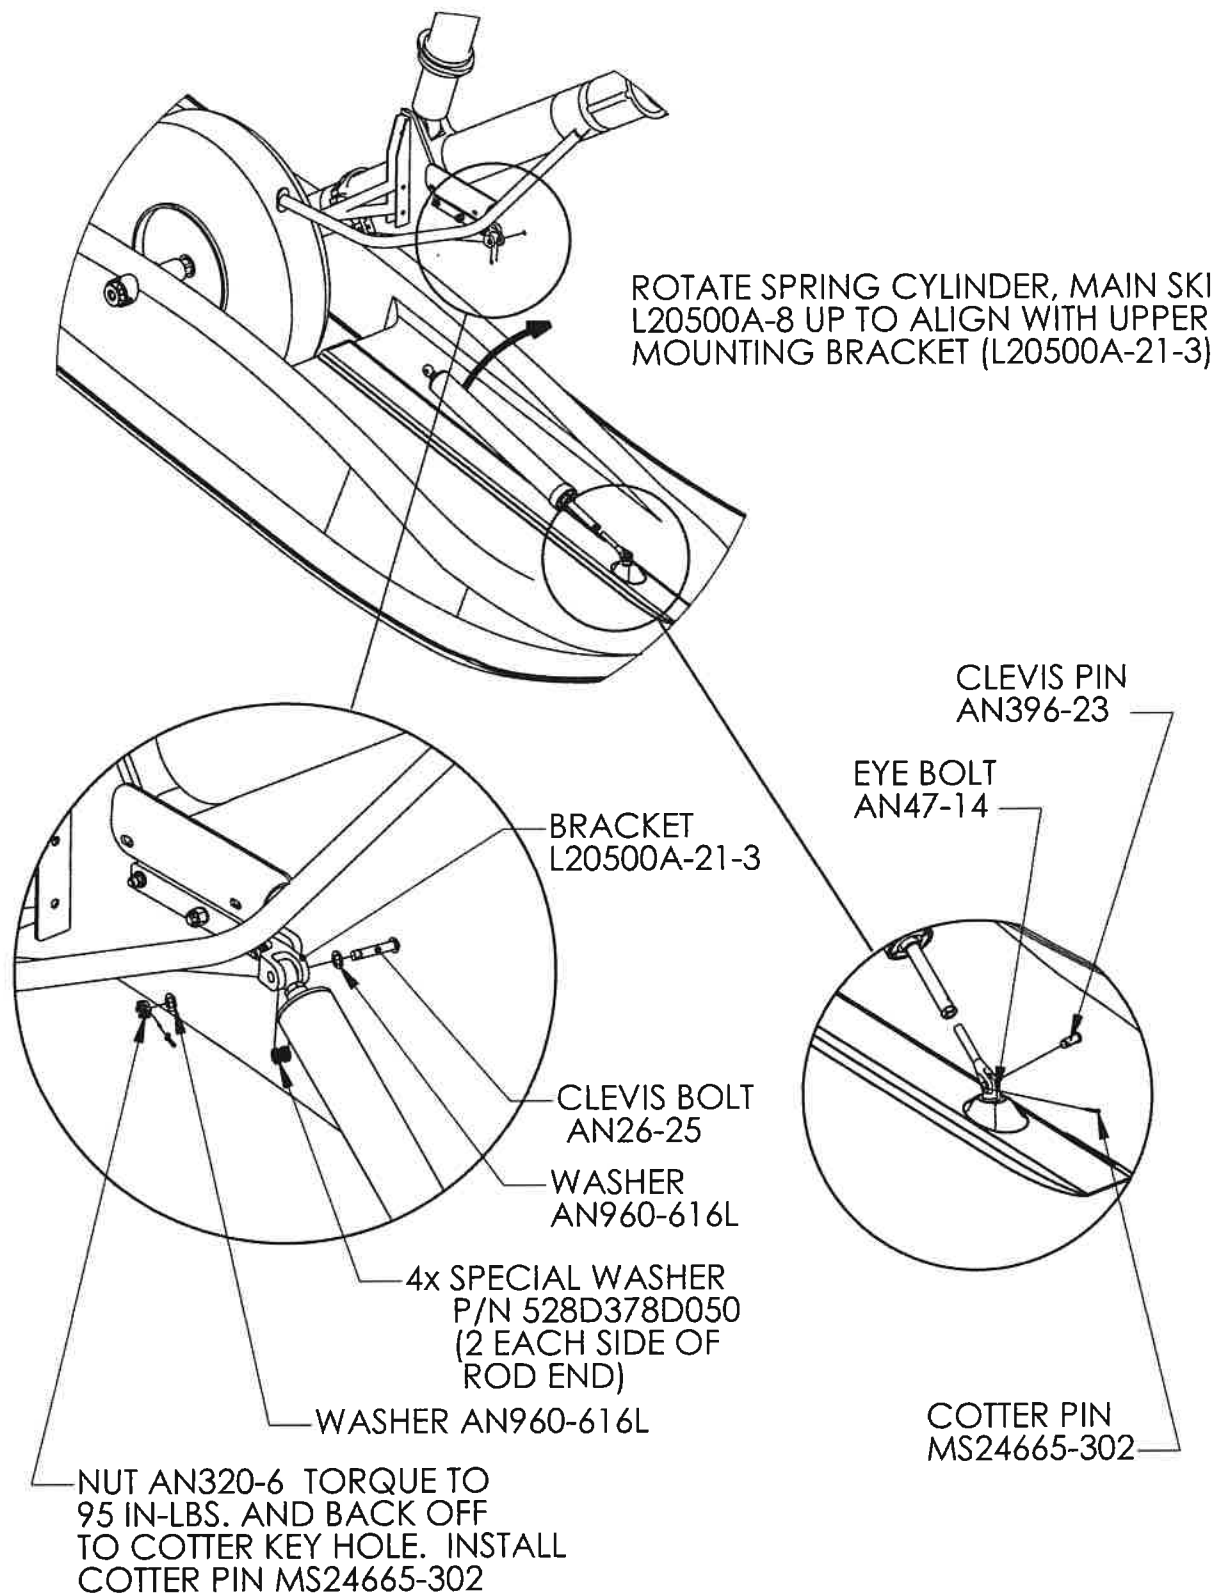

Figure 5.3
48. Install Spring Cylinder, Main Ski (L20500A-8) on forward Ski Eye Bolt (AN47-14) with Clevis Bolt (AN396-23) and Cotter Pin (MS24665-302) and to the Upper Mounting Bracket (L20500A-21-3) with Clevis Bolt (AN26-25), (2) Washers (AN960-616L) and Nut (AN320-6), (4) Special Washers (P/N 528D378D050 (2 each side of rod end)). *See Figure 5.3* TORQUE VALUE